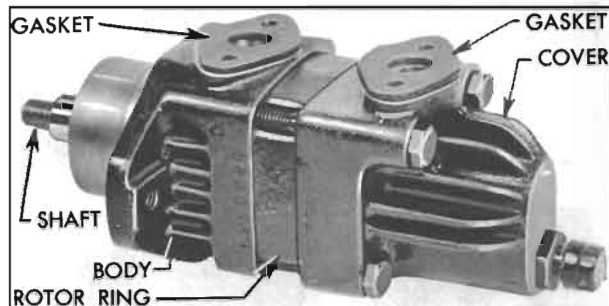

Figure 8-39—Pump with Reservoir Removed
3. Then remove pump manifold, housing, and gaskets. See Figure 8-39. Mark pump body and rotor ring for correct assembly.